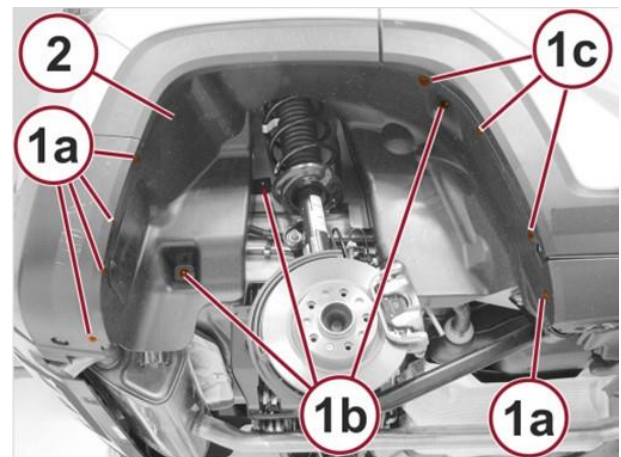

Figure 7 – Wheelhouse Liner
11. Remove the four screws (1a) securing the rear half of the rear wheelhouse liner (2) to the rear fascia on both sides of the vehicle (Figure 7).
12. Remove the two screws (1b) securing the rear half of the rear wheelhouse liner (2) on both sides of the vehicle (Figure 7).
32. Install the screws (1b) securing the rear wheelhouse liner (2) on both sides of the vehicle (Figure 7).
33. Install the screws (1a) securing the rear wheelhouse liner (2) to the rear fascia on both sides of the vehicle (Figure 7).